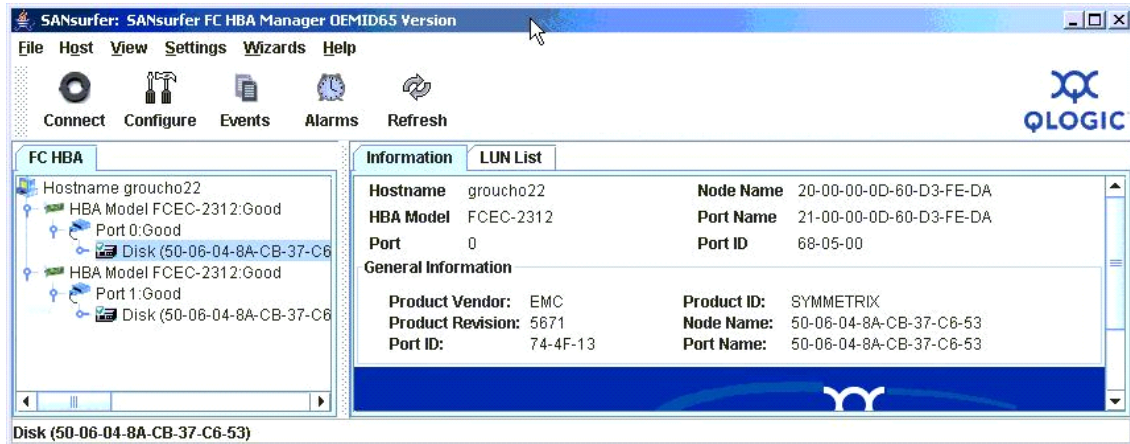

Figure 53 SANsurfer, SANsurfer FC HBA manager
On a Windows 2000/Windows Server 2003 system, do one of the following to start the SANsurfer application, which includes the SANsurfer FC HBA Manager GUI. When complete, the SANsurfer application GUI displays. (Refer to the **SANsurfer FC HBA Manager** main window, as shown in Figure 53 on page 74).
- Click **Cancel** to abort the connection process and return to the **SANsurfer FC HBA Manager** main window, as shown in Figure 53 on page 74.